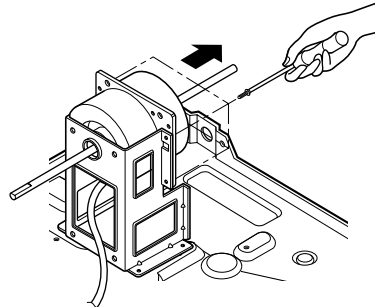

Figure 9
5. Remove the 4 screws which fasten the motor. (See figure 9)